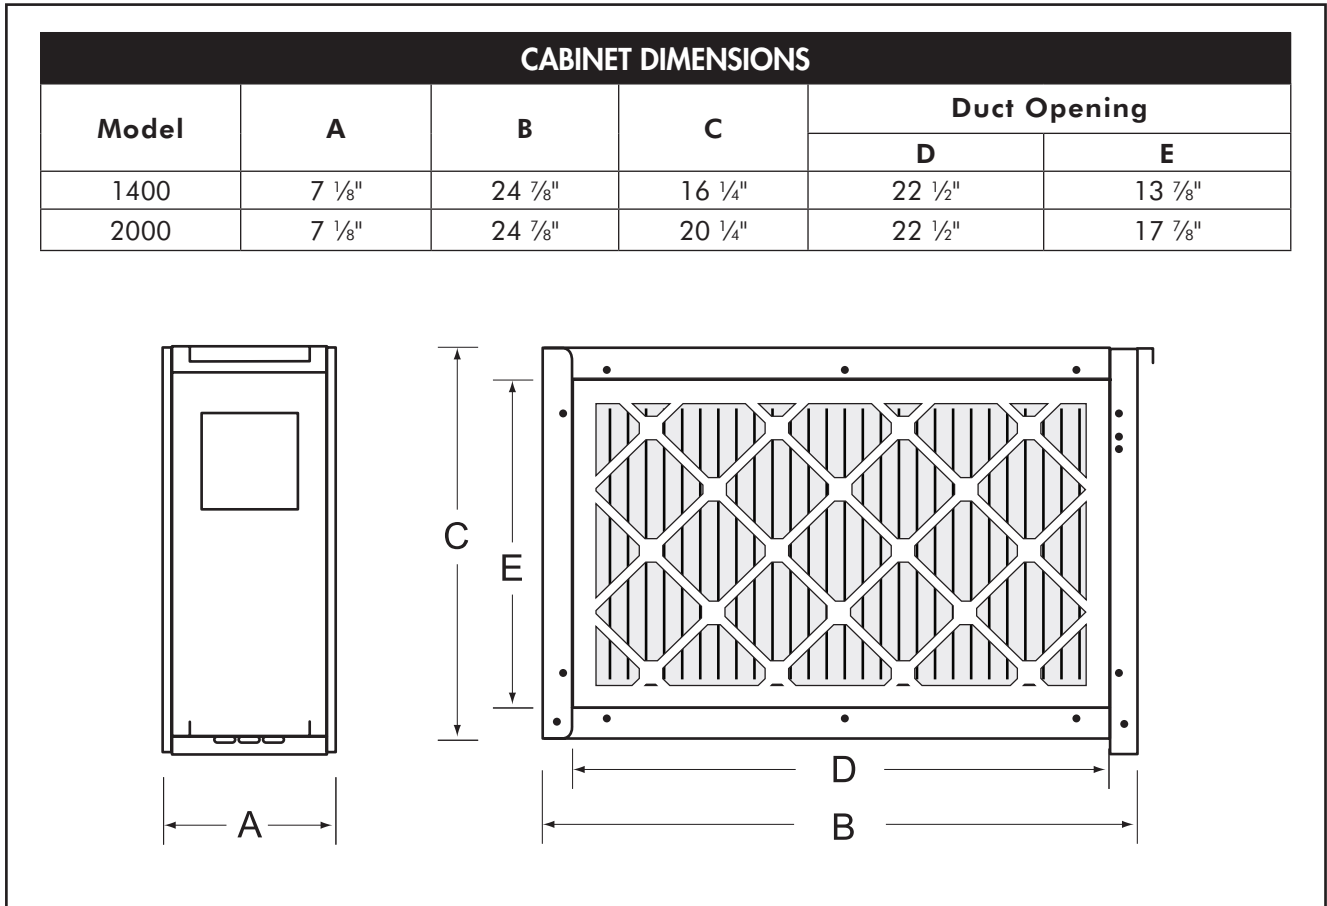

Figure 7
2. Remove the filter cabinet access panel. **NOTE:** "AIR FLOW" directional arrow, located on existing media filter (Figure 7).